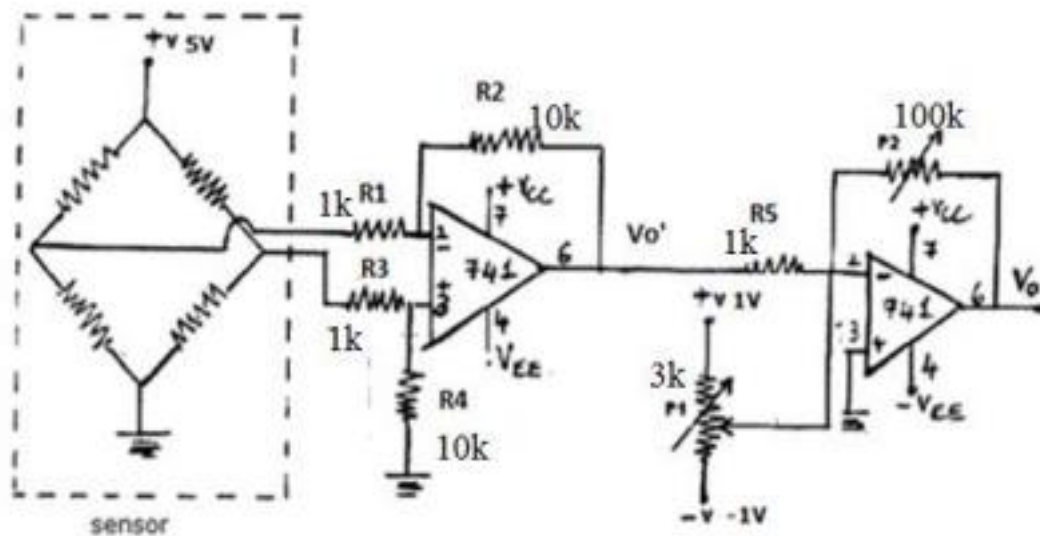

Fig.1: Signal conditioning circuit for pressure sensor
1. Rig up the circuit as shown in the Fig.1